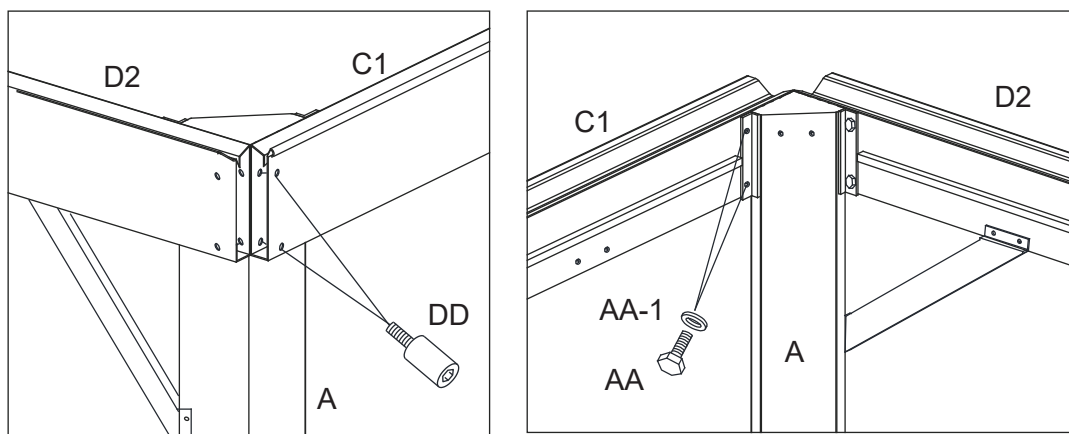

Figure 5-1
5.1. Attach Short Lintel (C1 and C2) to Corner Posts (A) first with Bolts (AA) and Steel washer (AA-1) then with Bolts (DD). Tighten Bolts. Repeat for opposite side Short Lintels (C1 and C2). Tighten all Bolts. See Figure 5-1 and Figure 5-3.